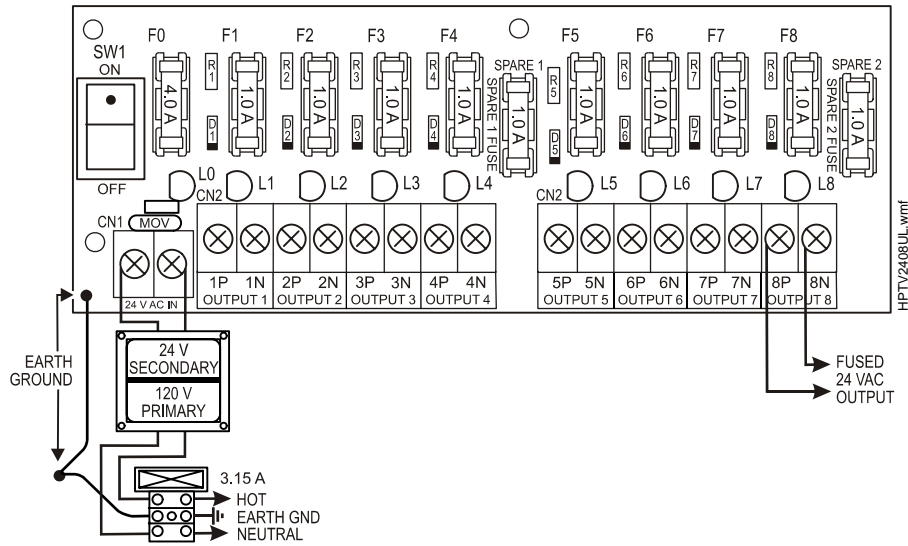

Figure 2
5. Connect incoming AC (120 VAC, 60Hz) into the incoming fuse block input observing polarities (see Figure 2). Connect ground leads as shown in diagram.